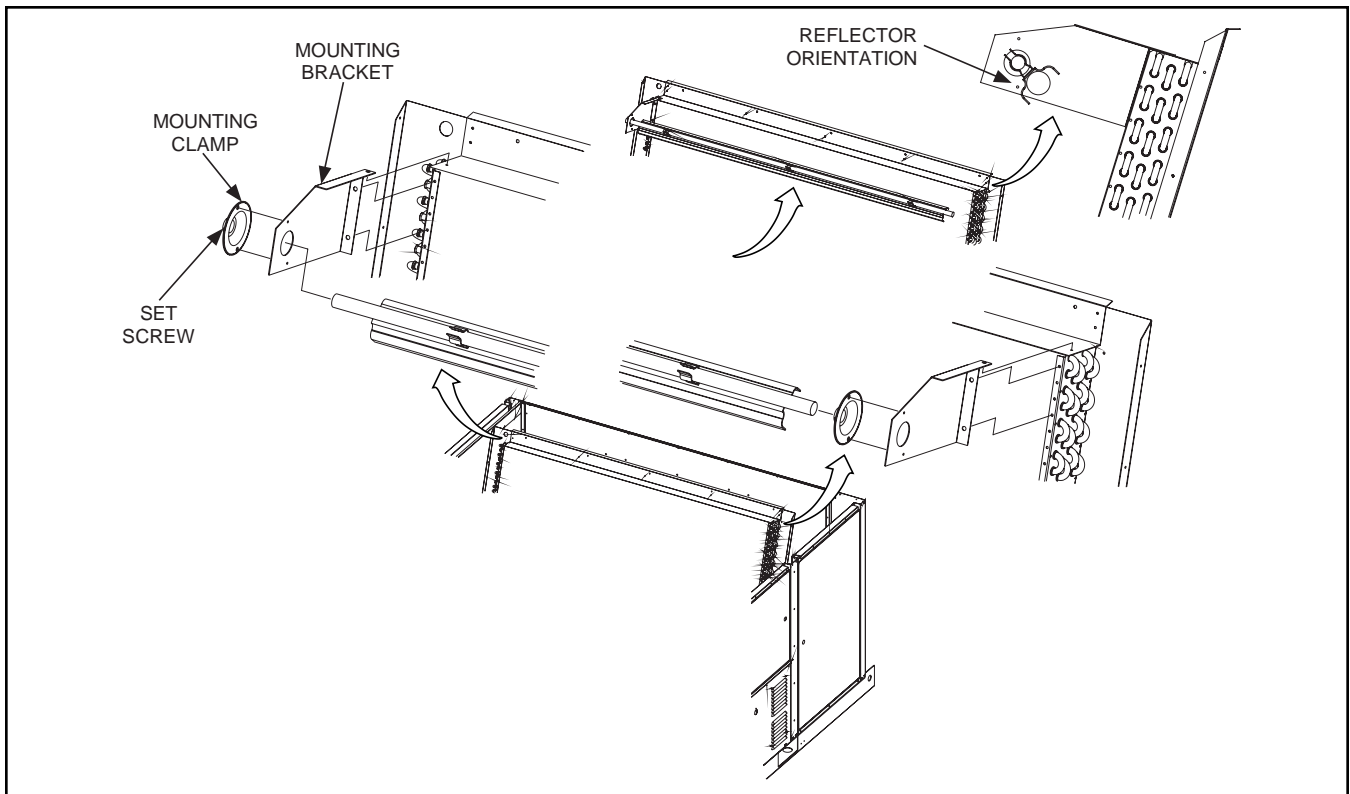

Figure 2
6. Locate pole mounting clamps (2) and attach to light mounting kit brackets with set screws facing front of brackets. See Figure 2.
8. With Reflector/Shield secured to aluminum pole, slide one end of pole through mounting clamp and then back into clamp on opposite end. Orient reflector at a 45 degree angle, downward from horizontal, with bulb side facing coil and tighten set screws on mounting clamps. See Figure 2.